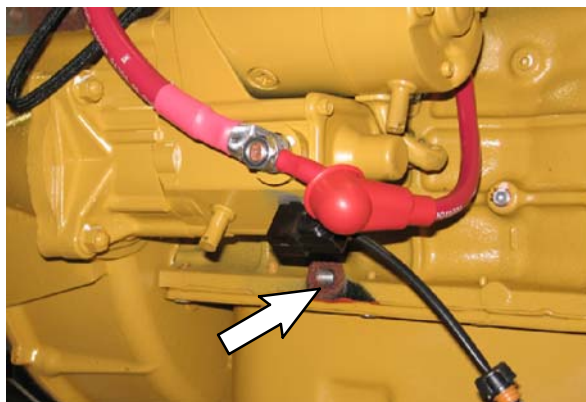

FIG. 1
1. Locate the manifold and follow the exhaust pipe down past the engine block and along the oil pan. Locate the tapped hole in the engine block, just above the oil pan and the exhaust pipe, and below the starter. Refer to Fig. 1.